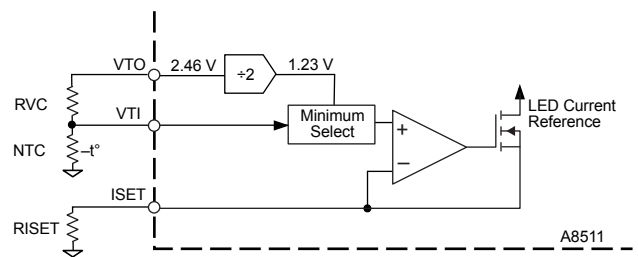

Figure 5. Thermal derating reference circuit
- Analog dimming using the VTI pin. External DC voltage can be applied to the VTI pin to control LED current. LED current varies as a function of voltage on the VTI pin. This configuration is shown in figure 5.
Thermal derating can be achieved by connecting an NTC thermistor between VTI and ground, as shown in figure 5. When the A8511 is enabled and $V_{TI} > 1.1$ V, 100% current for the LEDs is controlled by the ISET and DIM pins. When V_{TI} falls below 1.1 V, V_{ISET} starts to follow V_{TI} , resulting in I_{LEDx} varying proportionately with V_{TI} represented by the overlap of the dotted and solid curves. The proportion of I_{LED} to V_{TI} , when LED current is controlled through the VTI pin, is calculated as: